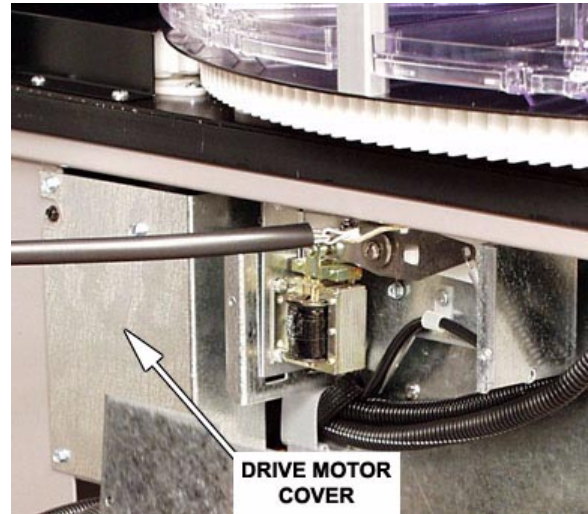

Figure 8
1. Remove the three screws securing the cover; remove the cover (figure 8).